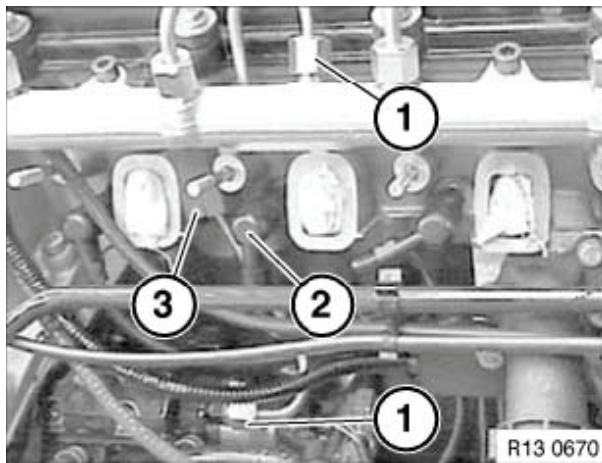

Figure 5-40
8. Install high-pressure pump-to-fuel rail line (**Figure 5-40, (1)**).
- 4BY Engines:** Install rubber mount (**Figure 5-40, (3)**).
9. Install the glow plugs (**Figure 5-40, (2)**).